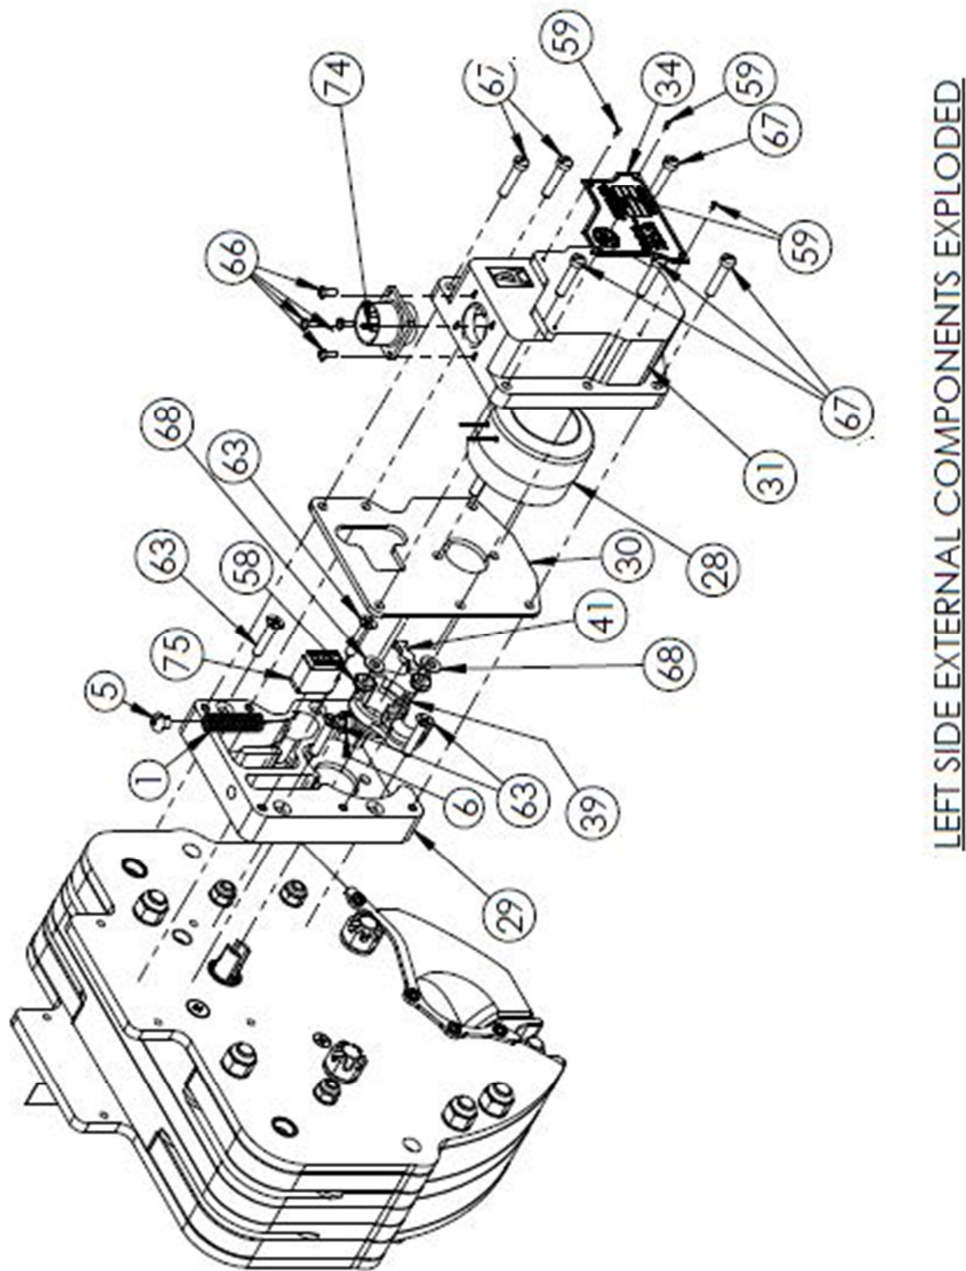
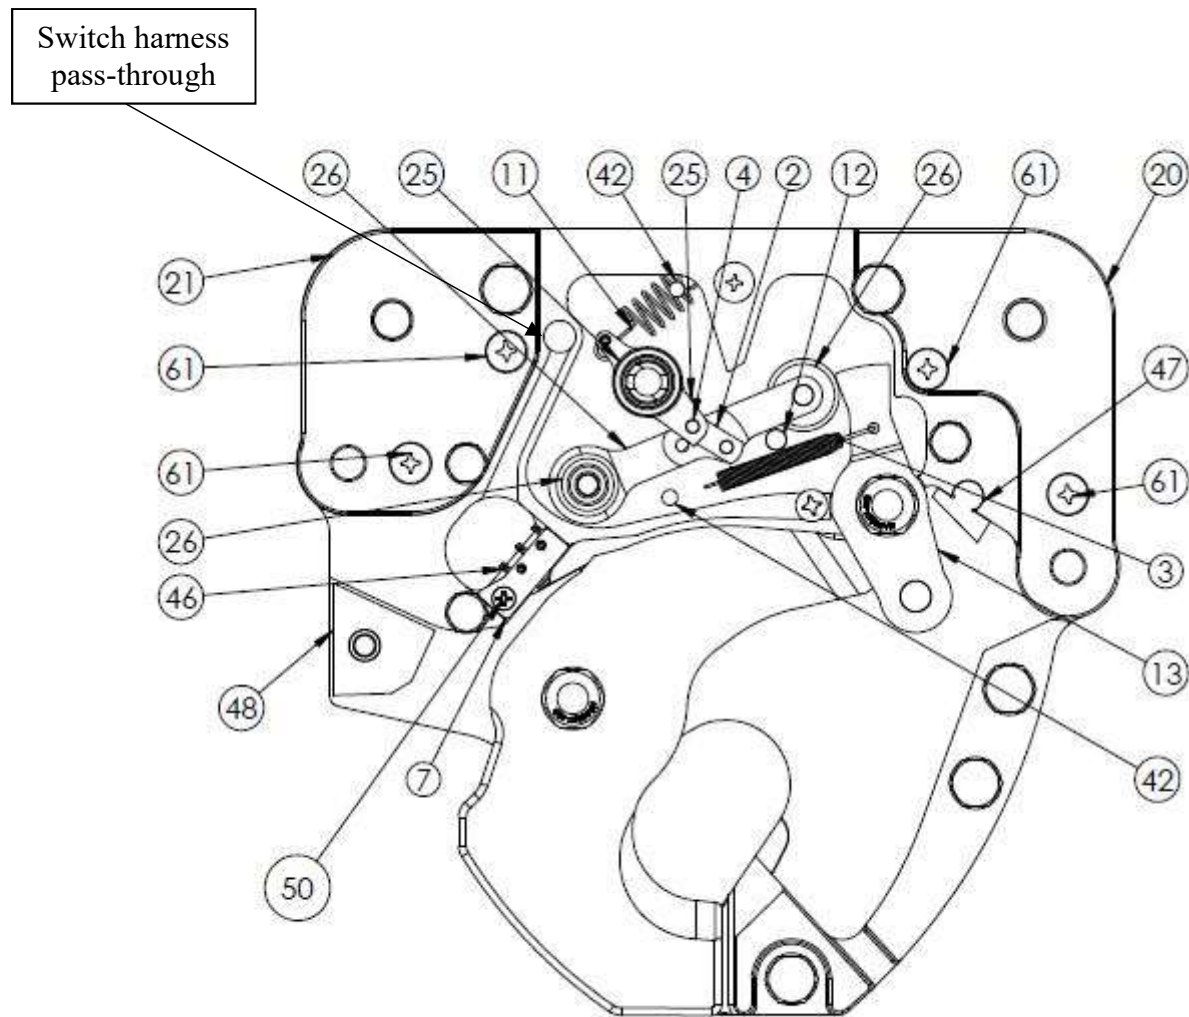

Figure 4.7: Hook Left Side Externals Exploded View (Sys. “A”)
Figure 4.12: Right Side Internals Assembled Before Side Plate
- Remove System “B” External Components (Figure 4.7)
- Continue to remove the release mechanism components until the hook is disassembled per Figure 4.7.
- Ensure switch harnesses, (item 42 & 43) with pins from terminal block (item 72), are able to pass through spacers and center plate assembly in further disassembly. (
- Begin disassembly of internal mechanisms by removing all nuts, washers, and cotter pins from the left side of the hook as per Figure 4.7
- Note that the countersunk screws (item 61 & 62) are to be removed last, prior to removing the side plate assemblies.
- Install all internal components in the right side of the hook as shown in Figures 4.7 & 4.8. Apply 130-AA Lubriplate or Mobil 28 on all rotating surfaces (bushing holes, bolts through latch and load beam assemblies, etc.).
- NOTE: It is recommended to utilize the bolts required through each of the side / center plate holes to ensure proper alignment of the side / center plate assemblies (items 11, 15, & 16) with the spacers (17, 18).
- Ensure RH Switch Harness Leads (42 & 43) are wired through hole of Spacers and center plate. See Figure 4.12.
- NOTE: It is recommended to install all of the bolts and countersunk screw in the hook for ease of assembly, and keeping the latch and load beam assemblies in place. (Figure 4.7)
- Install switch harnesses into terminal block on LH externals, and connect to LH connector. See Figure 4.12 for hook schematic.